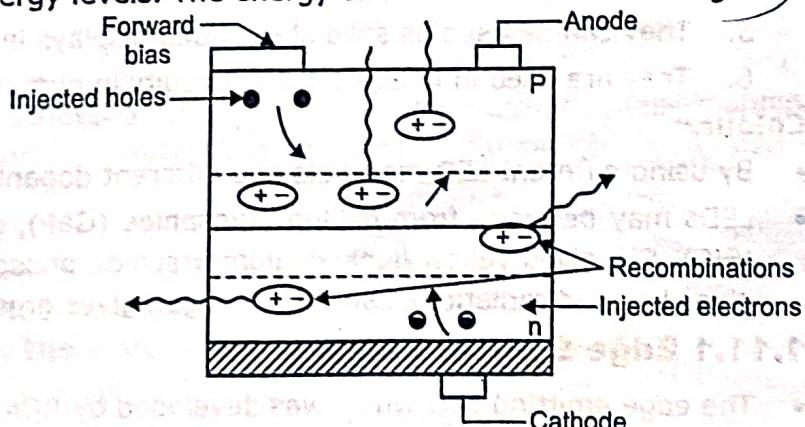

Fig. 1.14: LED Construction
- The construction of the LED is shown in Fig. 1.14.
- In the Fig. 1.14, the surface layer is p-type.